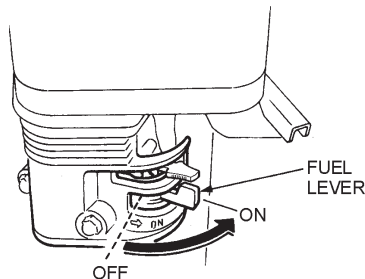

Figure 17. Fuel Valve Lever
2. Connect to water source (as applicable) see item 7 on page 48 (Water System Assembly), and test for adequate flood water [4 to 5 gallons per minute (15 to 19 LT/min)], and/or misting water [steady geometric aerosol spray at 40 psi].
3. Place the **fuel valve lever** (Figure 17) to the "ON" position.
3. Place the fuel valve lever (Figure 17) to the “OFF” position.